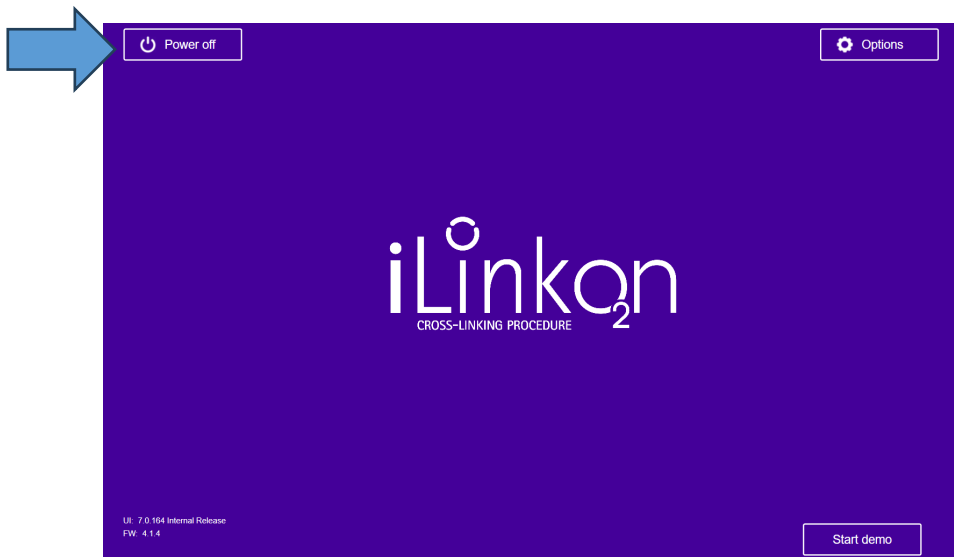

Figure 3-26. Select "Power Off"
- Select "Power Off" on the Patient List home screen as shown in Figure 3-26.